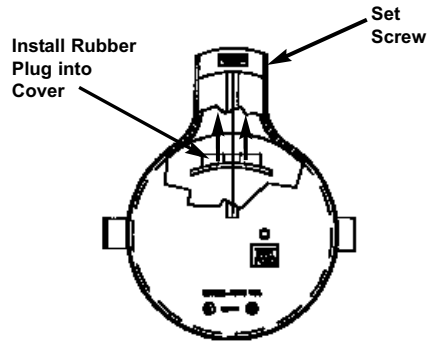

Figure 1 - (Stanchion shown)
B. Alternate sealing method for stanchion mount using RBPS1 rubber sealing plug and wall mount using RBPW1 rubber sealing plug (See Figure 1).